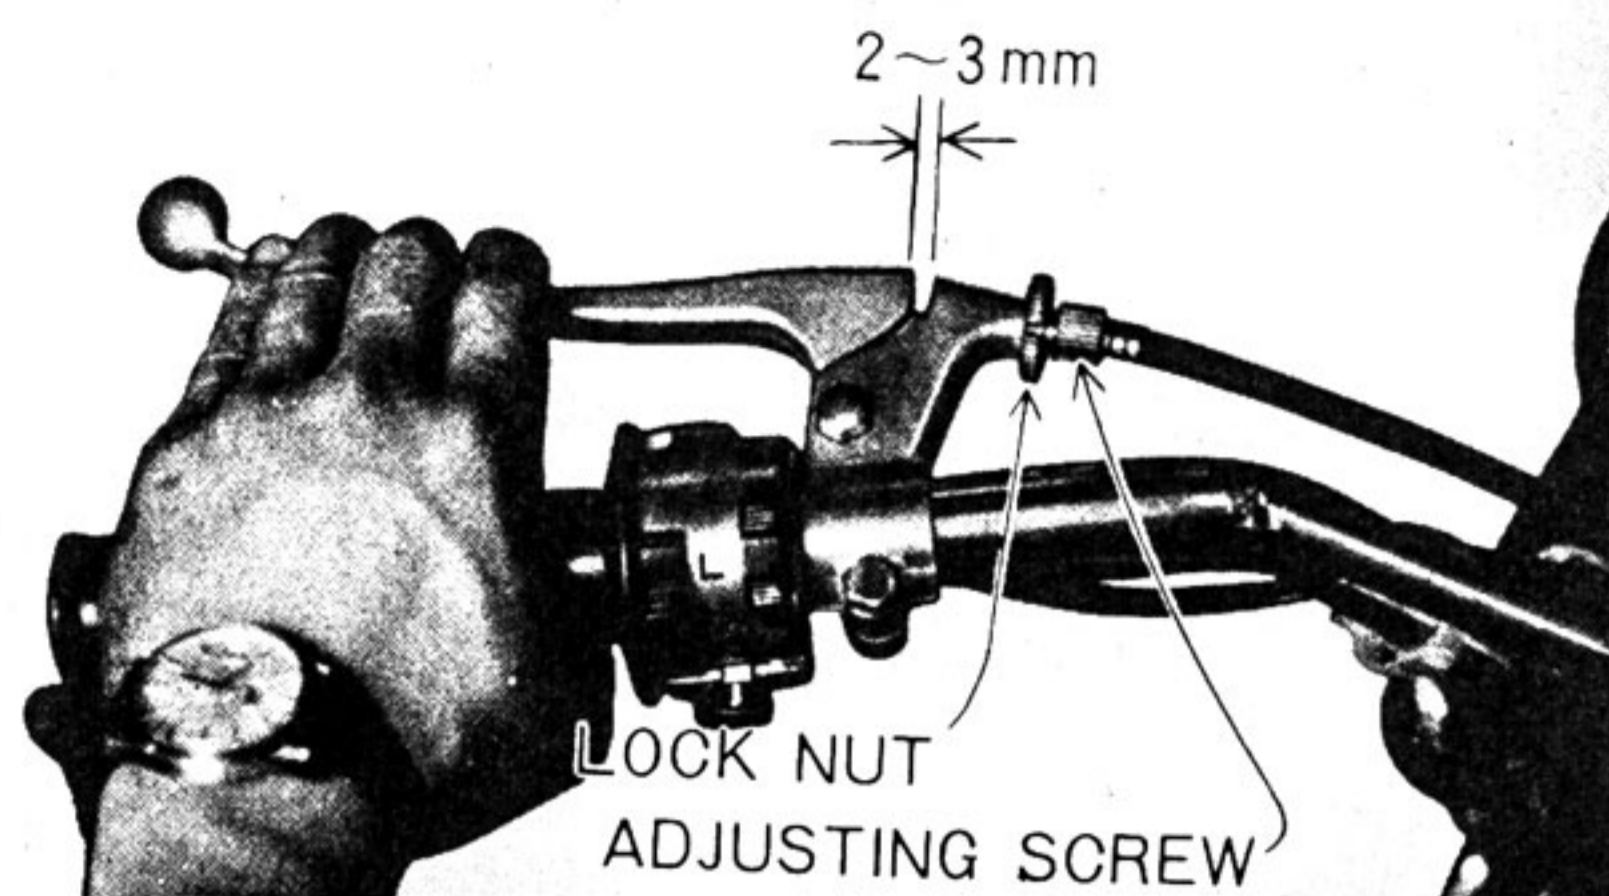

Fig. 4-9-15
Adjust clutch lever free play to 2 ~ 3 mm. (Fig. 4-9-15)
B. Adjustment on the upper part of the clutch cable. (Refer to Fig. 4-9-15)